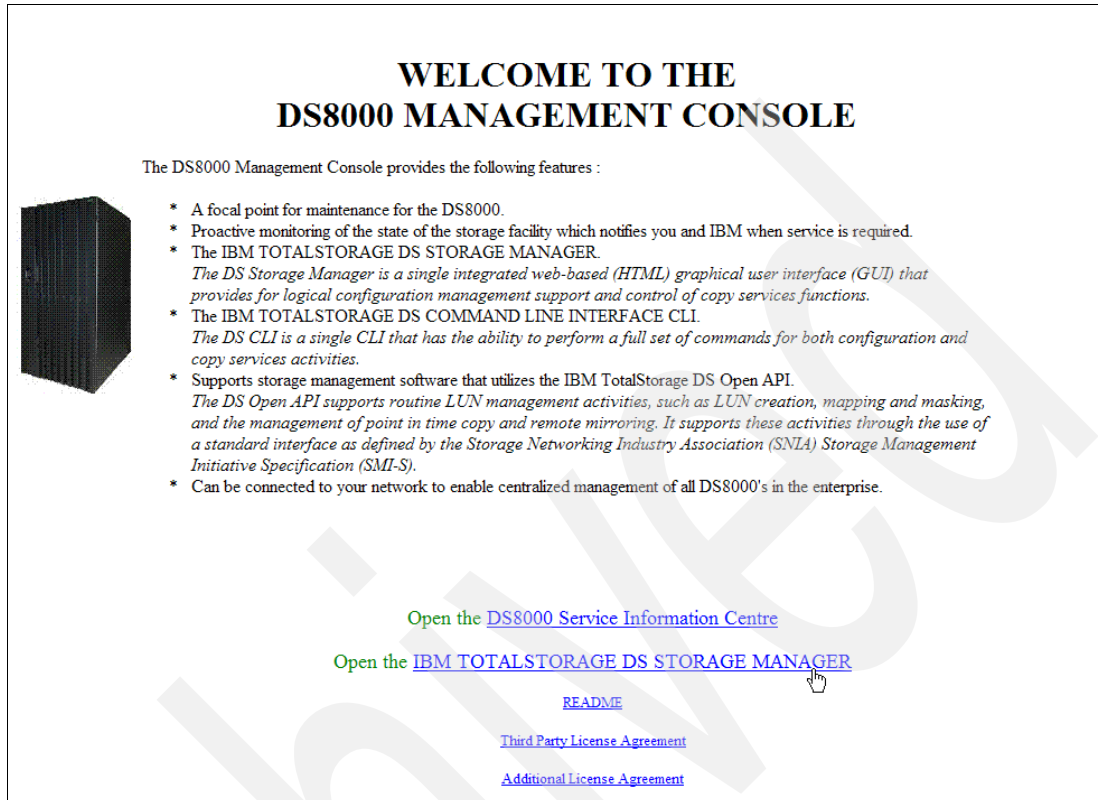

Figure 9-4 Management Console welcome window
3. The web browser starts with no address bar and a web page titled WELCOME TO THE DS8000 MANAGEMENT CONSOLE appears, as shown in Figure 9-4.